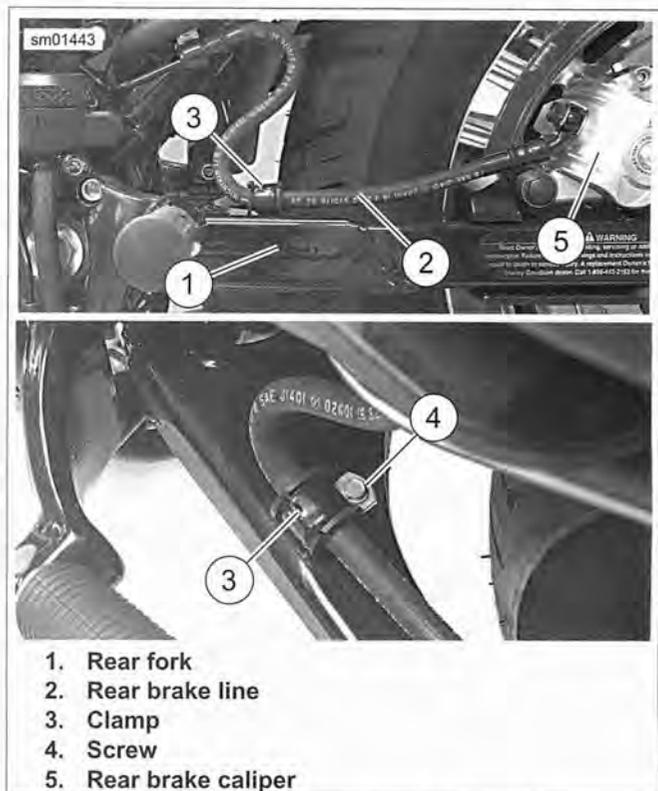

Figure 1-52. Rear Brake Line: XL Models
1. **XL Models:** See Figure 1-52. Remove screw (4) from clamp (3) on rear brake line (2).
- a. Tighten axle nut (4) to 95-105 ft-lbs (129-142 Nm). Install new E-clip (1).
- b. **XL Models:** See Figure 1-52. Reposition clamp (3) on rear brake line (2) and secure clamp to rear fork (1) with screw (4). Tighten to 30-40 in-lbs (3.4-4.5 Nm).